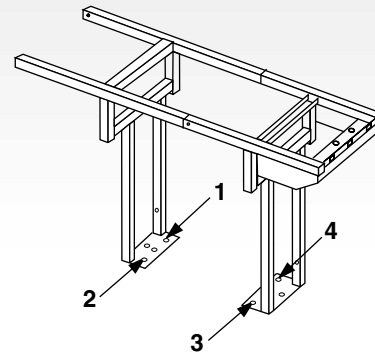

Figure 10
**⚠WARNING:** Whichever method used, the base must be bolted down (anchored) at a minimum of four anchoring points (two per side) prior to barbecue assembly. One anchor in each corner of the base plate. Figure 10.